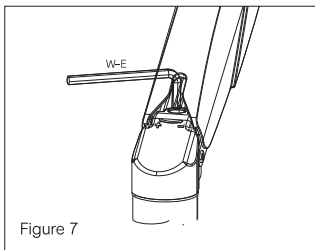

Figure 7
- › Using a hex wrench (W-E), adjust tension by turning the screw clockwise (tighten) or counter clockwise (loosen) depending on your monitors weight (see Figure 7).